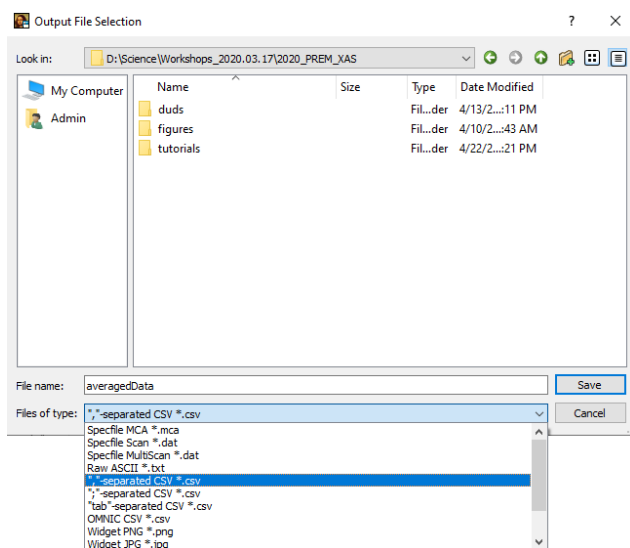

Figure 1-15: Save the file as a *.csv file to export from PyMCA.
- 18) At the beamline, you'll likely find yourself doing the steps we just did quite often to assess how data collection is going and to see when it's ok to stop scanning on a sample. PyMCA is great for this kind of work as it allows all of these common data processing steps to be done quickly and easily. Advancing into deeper data processing, however, generally requires additional, specialized, programs. In order to use those, you would need to export your processed PyMCA data into a form that can be read by other software. Thankfully this step is easy: With your averaged spectrum plotted, click the “Save” icon in panel D to bring up the save dialogue box. Navigate to where you want to save the file and—**importantly!**—change the file type from *.mca to comma-separated *.csv file (Figure 1-15); save the file and you're done.